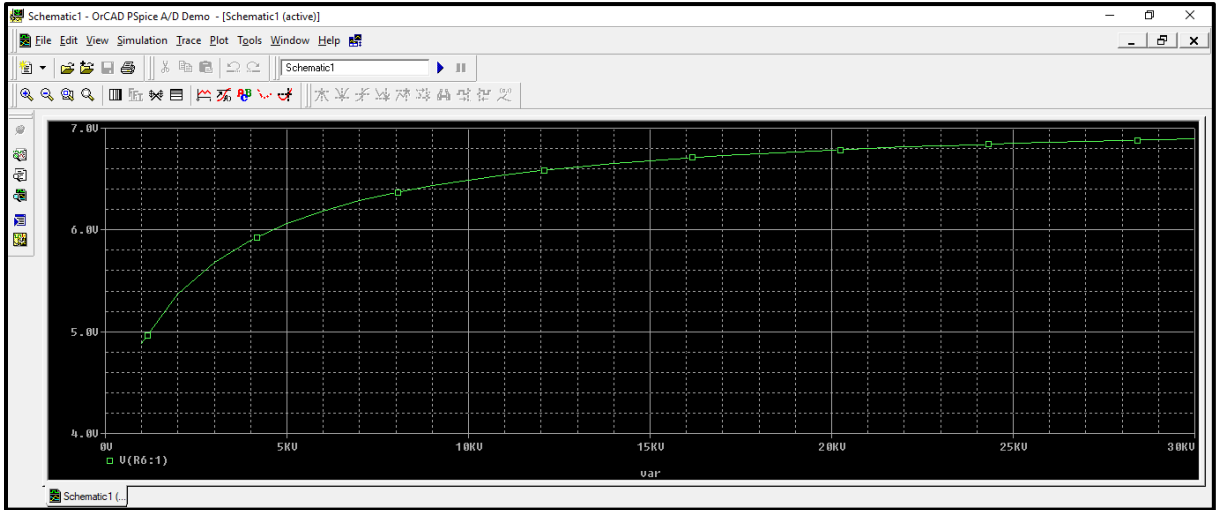

Figure.32
- Click simulate and check the output as shown in figure.32.